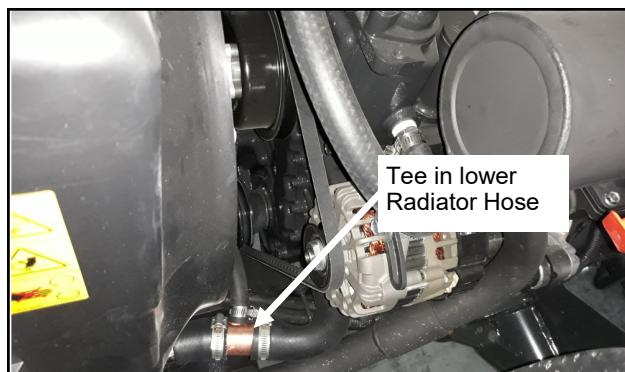

Fig. 14.3 (Lower Radiator Hose)
**14.3** For the return line from the heater, cut the lower radiator hose in the location shown. See Figure 14.3. Install the enclosed T-fitting with large hose clamps provided. NOTE: Spray the inside of the cut hose and the fitting with brake cleaner to ease installation.